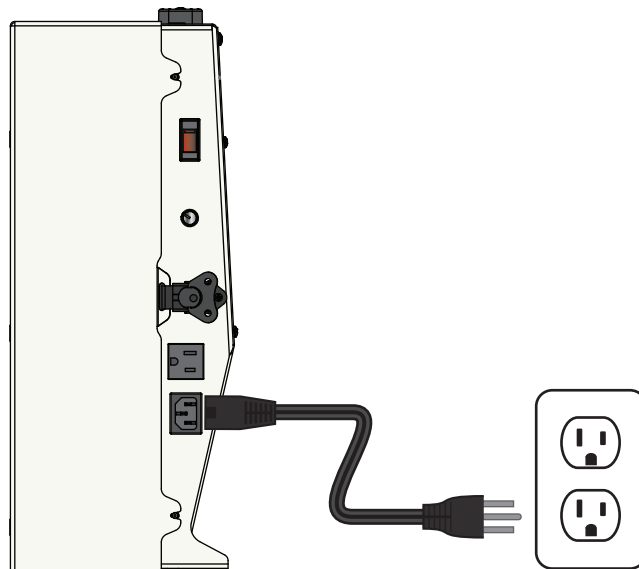

FIG. 4
Plug the female end of the AC Cord (K) into the BenchTop DC Assembly (A) male port. Make certain that the power switch is in the off position and then plug the AC Cord into an AC power source (wall outlet) [FIG. 4].